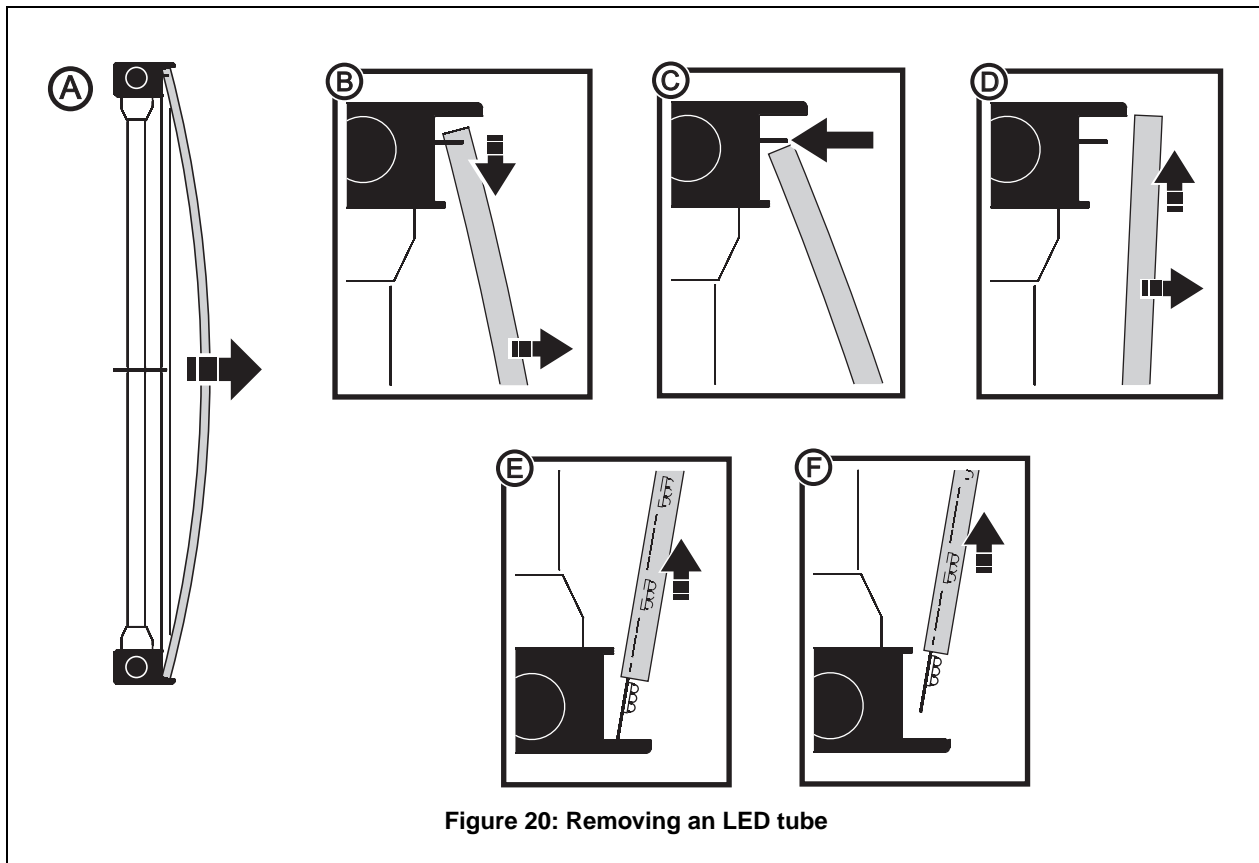

Figure 20: Removing an LED tube
3. See Figure 20. When the tube is released from all brackets, bend it outwards at the center (A and B) until the top of the tube is clear of the retaining bracket (C).
4. Pull the top of the tube forward (D) just enough for the tube to clear the retaining bracket. Do not pull the tube further forward than is necessary.
5. Lift the tube upwards (E), holding the PCB at the bottom of the tube so that it is unplugged from the base as the tube is lifted (F). Be careful not to damage the connector terminals on the PCBs while handling.
2. Bend the center of each tube outwards as shown at (A) in Figure 20 until the top of the tube can pass under the retaining bracket (C). Slide the top of the tube under the retaining bracket.